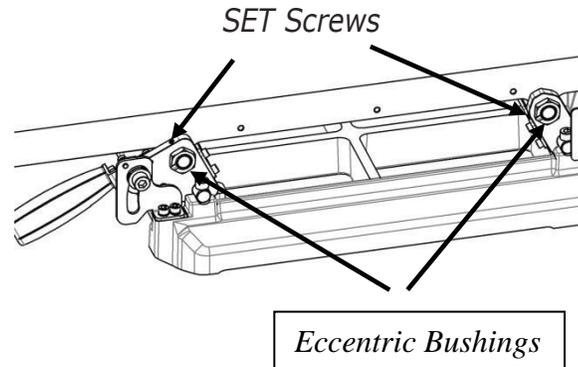
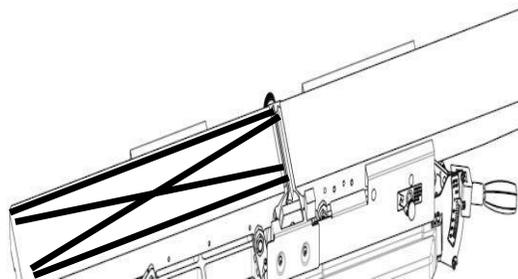

Figure 38:
Figure 39:
STEP 6: If the outfeed table is not parallel to the cutter head; loosen the set screws for the eccentric bushings **FIG. 38**. Rotate the eccentric bushing(s) to adjust the outfeed table parallel to the cutter head. Make sure eccentric bushings are seated and tighten set screws.
STEP 5: After verifying the parallelism on the outfeed table, make sure the eccentric bushing(s) are seated snugly and tighten set screw(s) into eccentric bushing(s) **FIG. 38**.
STEP 3: Loosen set screws as shown in FIG. 38.
STEP 4: Place straight edge to all the positions shown in **FIG. 39** and loosen set screw(s) adjust the eccentric bushings, as in **FIG. 38**, until straight edge slightly touches the cutterhead insert knife (at top-dead-center) at each position.
STEP 5: After verifying the parallelism on the outfeed table, make sure the eccentric collars are seated snugly, into its bracket, and tighten set screws into eccentric bushings (Fig. 38).